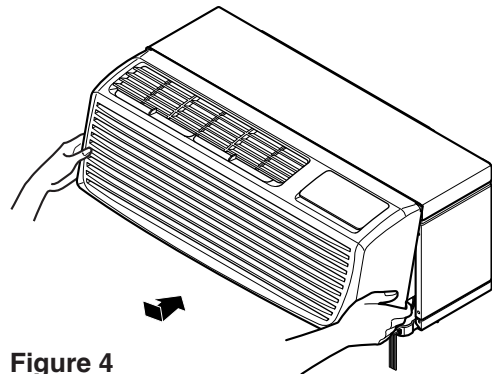

Figure 4
4. Reinstall the front grille by hooking the top over the unit top, then pushing it in at the bottom. (See Figure 4)